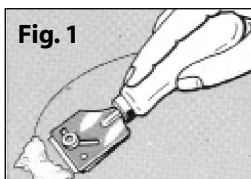

Fig. 1
- Sugar or foodstuffs containing sugar which have spilt onto the glass-ceramic should be removed whilst warm using a glass-ceramic scraper, Fig.1. Failing to do so may damage the appliance.
The hob is designed to fit into worktop and base unit(s) with a cutout as shown in Fig. 1. Any obstruction such as supports or side panels must be removed to allow 55mm minimum depth below the worktop cutout. Any overhead surface of combustible material must not be closer than 650mm. Adjacent vertical walls or kitchen furniture must not be closer than 100mm to the edge of the cutout. Walls or other kitchen furniture closer than 100mm to the aperture edge should be protected by heat resistant materials (e.g. ceramic tiles) Fig. 2. Surfaces to be avoided in close are bare or painted wood, plastic tiles and other wall covering likely to burn or stain. If a cooker hood is to be installed refer to the manufacturer's instructions regarding fixing heights.